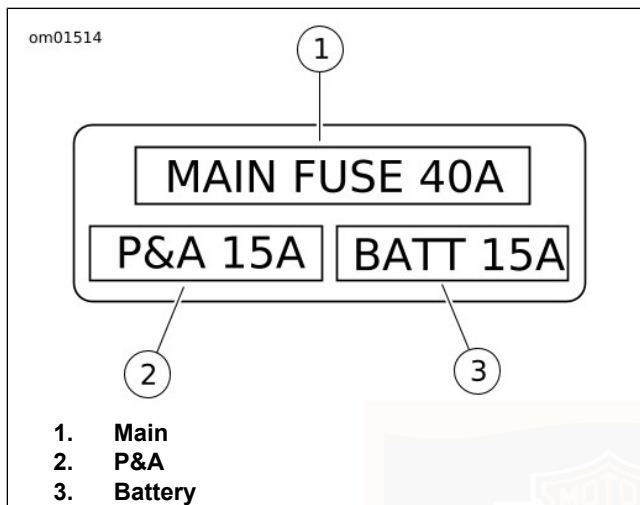

Figure 53. Fuse Block
See Figure 53. The electrical circuits are protected by three fuses. Individual vehicle circuits are protected by the Body Control Module (BCM).
4. See Figure 53. Remove suspect fuse.